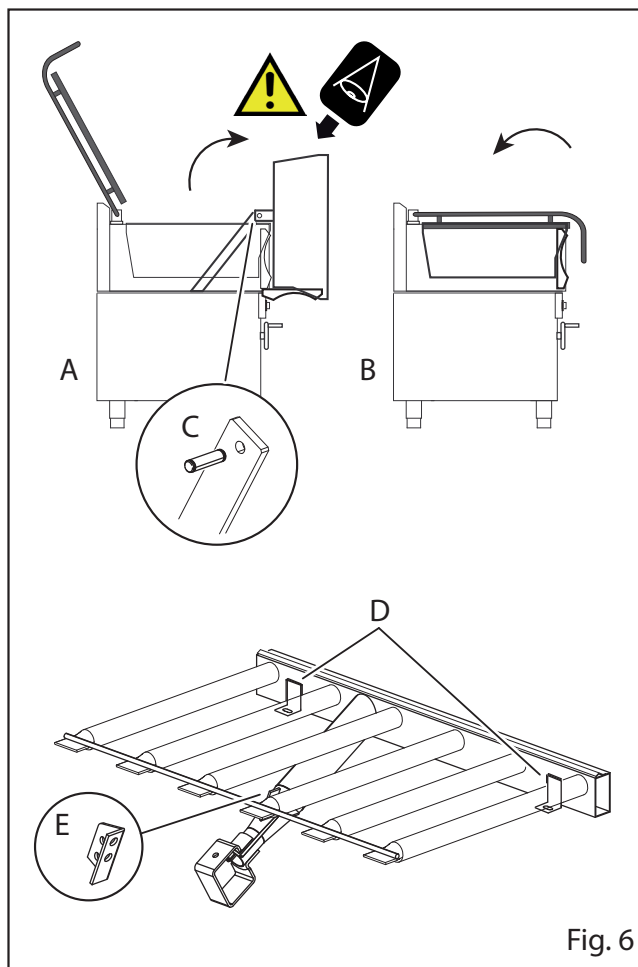

Fig. 6
- Use the handwheel to bring the tank into a vertical position (Fig. 6/A)
- Unscrew the screws securing the tipper extension (Fig. 6/C)
- Unscrew the pilot unit mounting plate and burner screws (e.g. Fig. 6/D+E)
- Bring the tank back to a horizontal position (Fig. 6/B)
- Unscrew the burner screws and pilot unit mounting plate (Fig. 6/D+E)